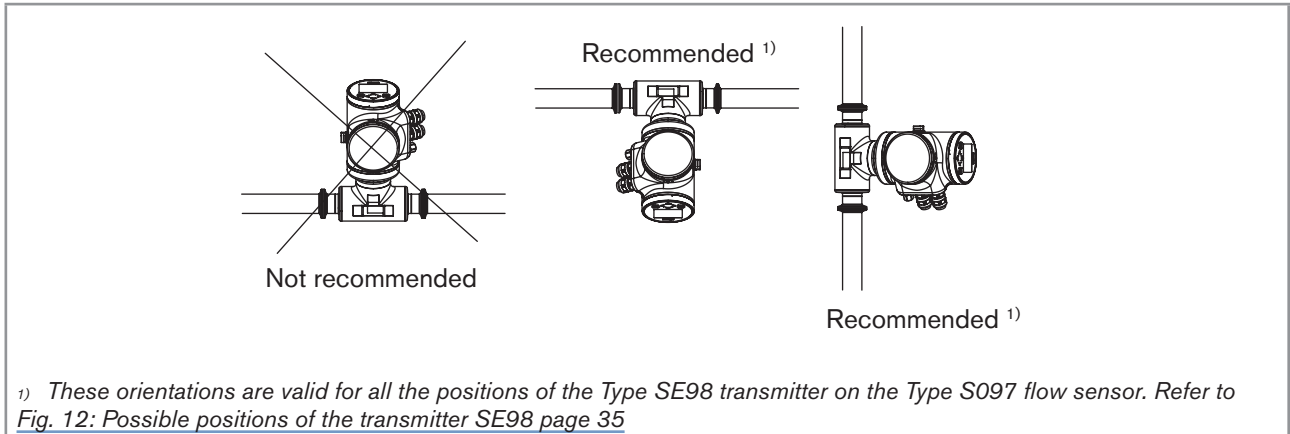

Fig. 15: Orientation of a device with cable glands to avoid effects of high liquid temperatures
- To make sure the internal temperature of the transmitter with cable glands does not exceed the authorized maximum value, install the device as recommended in Fig. 15.